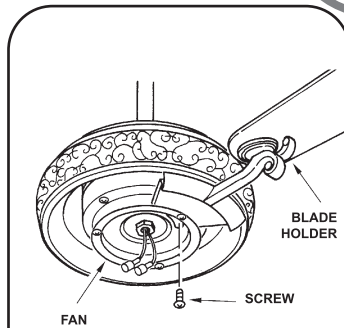

Fig.21
Step 3. Align holes from blade holder to motor and secure with 2 screws provided. (Fig 21).
A **DOWNWARD** airflow creates a cooling effect as shown in Figure 21. This allows you to set your air conditioner on a warmer setting without affecting your comfort.